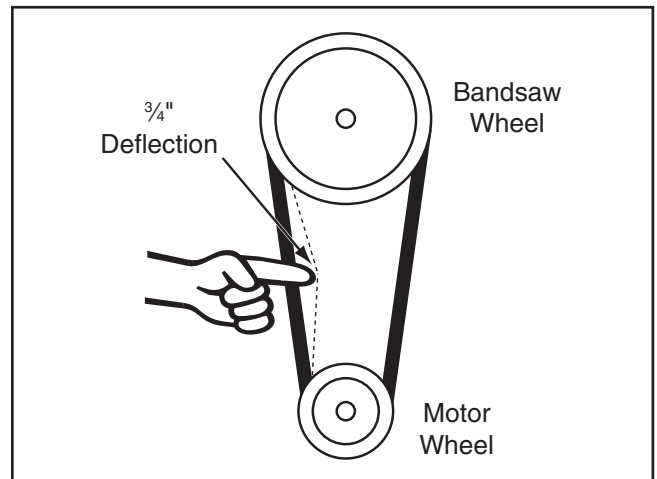

Figure 78. V-belt deflection.
5. Check the V-belt tension by applying moderate pressure between the pulleys (see **Figure 78**). If deflection is not approximately $\frac{3}{4}$ ", re-tension the V-belt until it is.